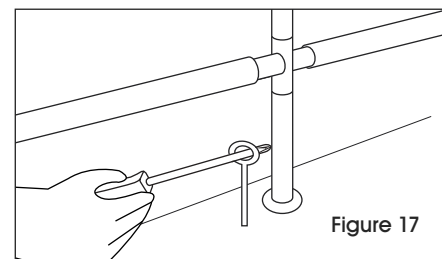

Figure 17
- Anchor your canopy at each corner foot and center foot on each side. Screw anchor into ground next to canopy foot using a large screw driver. (See Figure 17)